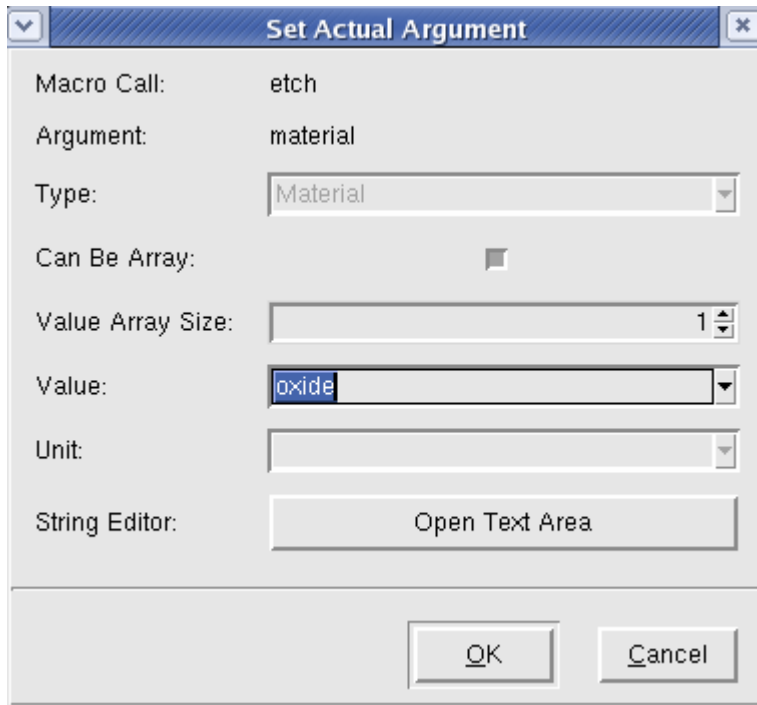
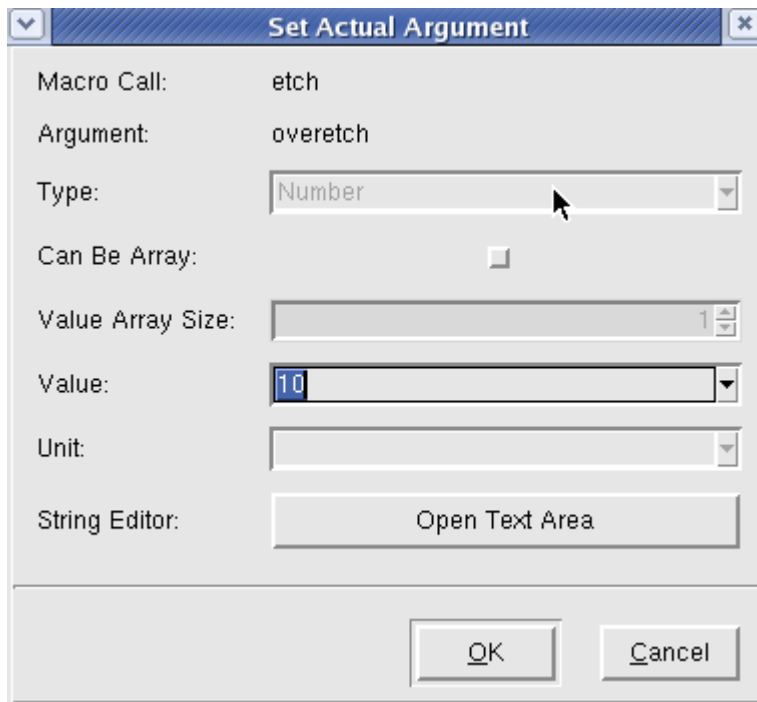
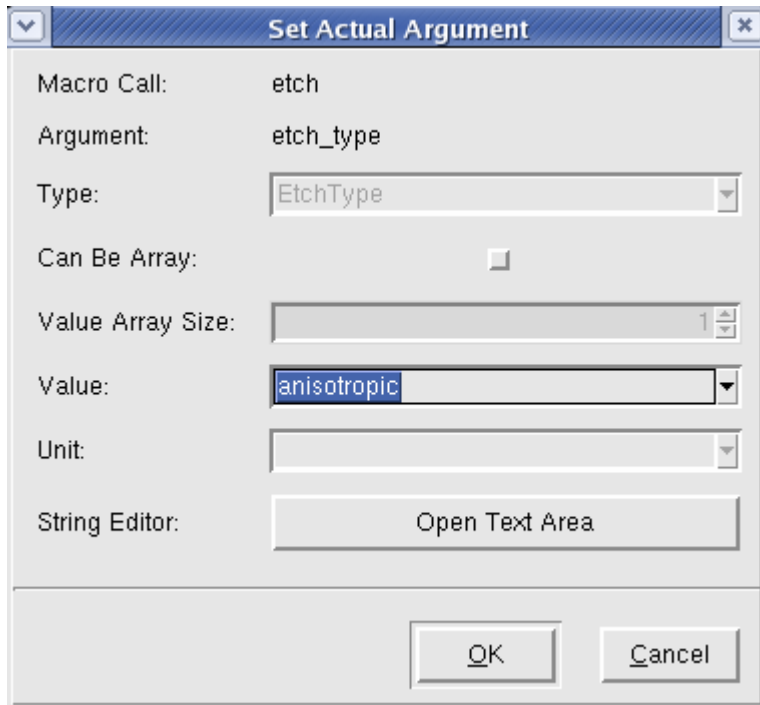

Figure 74: Setting the etch step for oxide.
Figure 75: Setting the over etch.
Figure 76: Setting the etch type.
15. Add an etch step after the previous pattern step. Set the material to Oxide (Figure 74), Overetch to 10 (Figure 75), and the type to anisotropic (Figure 76).